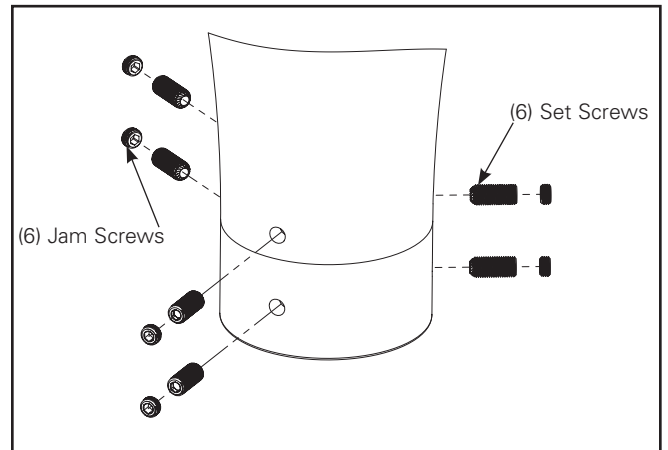

Figure 5.
6. Install six 3/8-24 x .375" set screws and tighten to 160 in-lbs. (Figure 5.)
7. Install six 3/8-24 x .1875" jam screws and tighten to 100 in-lbs. (Figure 5.)